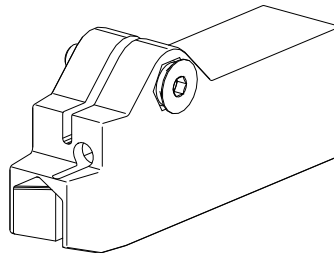

Fig. 30: End cap for end feed (order number: 081272-2)
- at the end of the conductor rail system (end feed) (see Fig. 30).